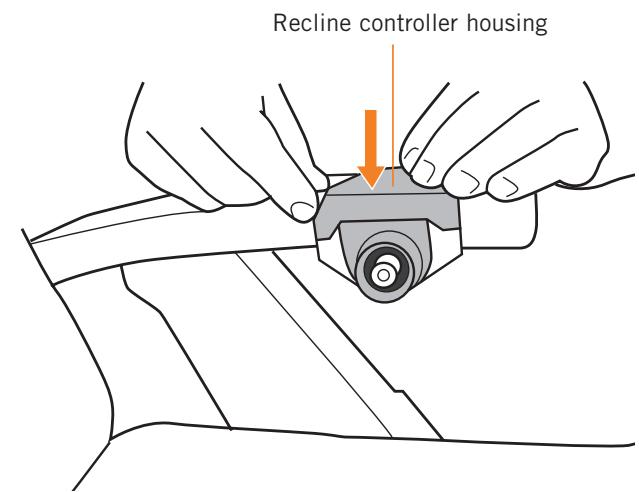

Fig.2
3. **PC-600/610:** Place the housing into position on the left-hand armrest as shown (Fig.2).